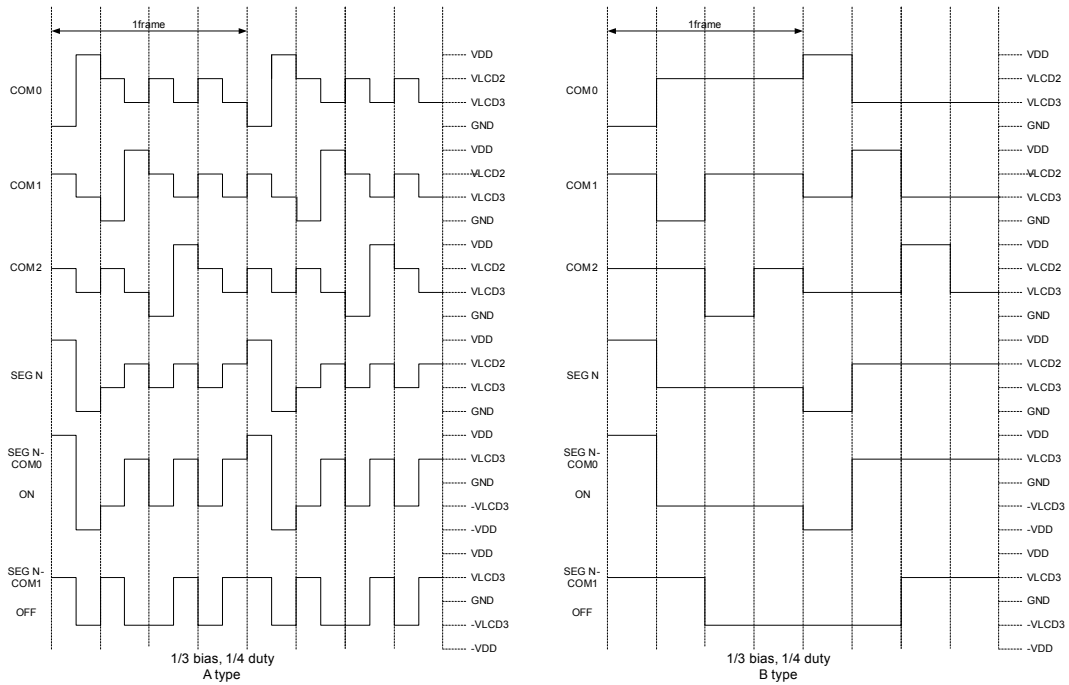

Fig. 21 LCD Waveform for 1/3 Bias, 1/4 Duty
This LSI can output infrared carrier in a friendly manner or in PWM standard waveform. The IR and PWM waveform generated functions include an 8-bits down-count timer, high-pulse width timer, low-pulse width timer, and IR control register. The IR system block diagram is show in Fig.21, The IROUT pin waveform is determined by IR control register (RE), IOC90 (Counter 1, 2 control register), IOCA0 (high-pulse width timer, low-pulse width timer control register), IOCC0 (Counter 2 preset), IOCD0 (high-pulse width timer preset register), and IOCE0 (low-pulse width timer preset register). Details on  $F_{\text{carrier}}$ , high-pulse time, and low pulse time are explained as follows: